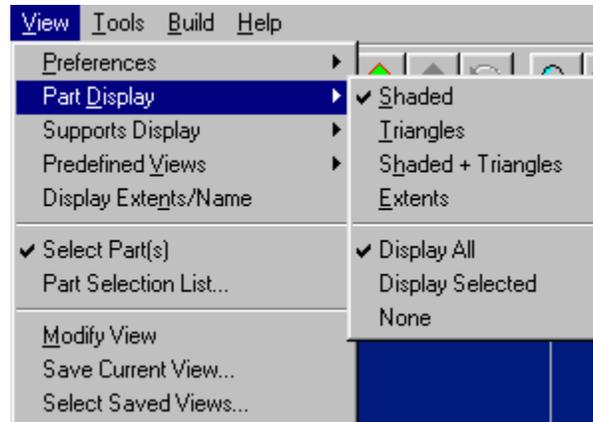

Figure 139. View Pull-down Menu (Part Display)
- 2. Click on the desired options in the pop-up menu to the right (Figure 139).**